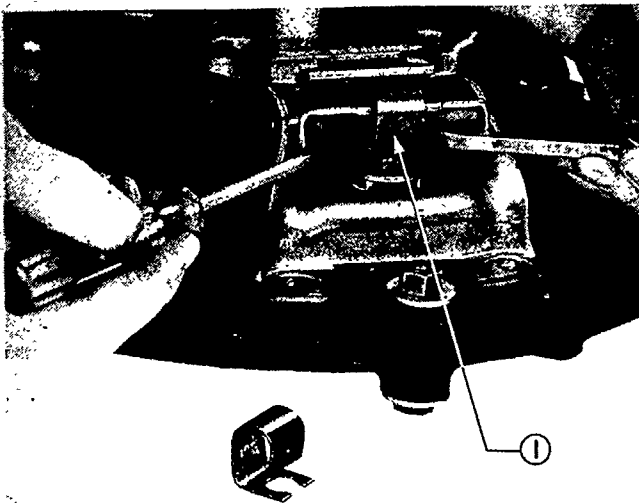

Figure 35
5. Remove the three "C" shaped release lever retainer clips using two screwdrivers as shown in Figure 35. Discard and renew on assembly.